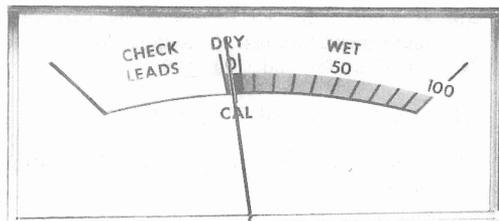

Fig. 3—Meter Face
(1) Move CAL TEST switch to CAL position.
(2) Depress and hold RUN button.
(3) BATT OK indicator will glow green if both batteries are good. If indicator does not come on, both batteries must be replaced before accurate readings can be taken.
(4) If BATT OK indicator comes on, turn CAL ADJ knob until meter needle lines up with CAL mark in meter window (Fig. 3). (Meter needle may occasionally be adjusted even if BATT OK indicator does not glow; however, readings will be inaccurate.)
(5) Release RUN button.